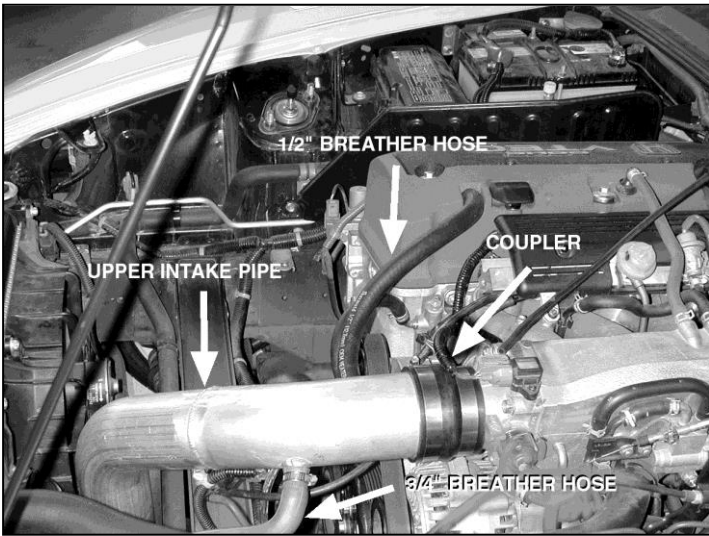

Fig.5
- c. Secure the small end of the provided rubber reducer coupler onto the throttle body with the provided No. 44 clamp. **(Fig.5)**
- d. Install the upper inlet pipe onto the coupler, and secure with a No. 48 clamp provided. **(Fig. 5)**
- e. Install the 1/2" breather hose to the cam cover and the nipple on the upper inlet pipe using the provided 1" hose clamps. **(Fig. 5)**
- f. Secure the factory 3/4" breather hose to the nipple on the upper inlet pipe with the factory clamp. **(Fig. 5)**